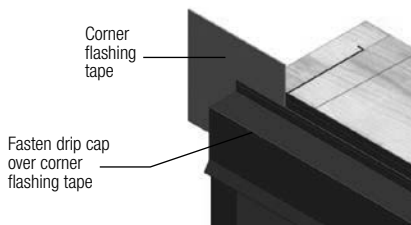

FIG. 17
- B) Apply a 1/4" continuous bead of 100% silicone sealant to the backside of the drip cap nailing leg. Install the drip cap flashing across the top of the door. Secure it to the framing using galvanized roofing nails near the top of the vertical leg. (Fig. 17)